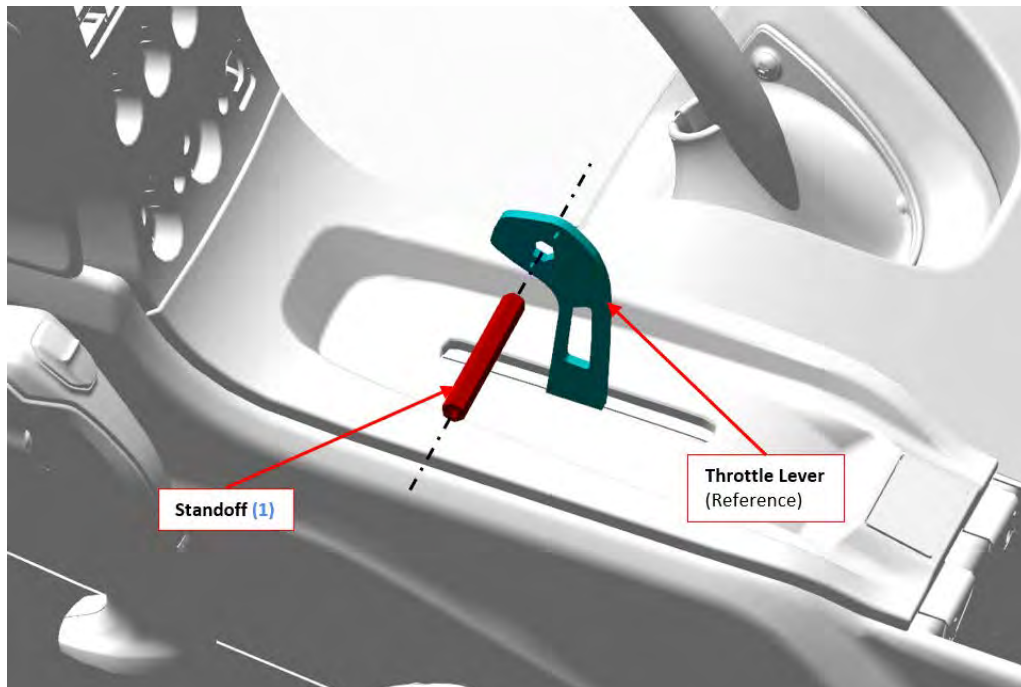

FIGURE 9-8
3. Remove the standoff that is inserted into the throttle lever. Retain hardware. See Figure 9-8.
3. Install the standoff by inserting it into the throttle lever. See step 2. See Figure 9-8.